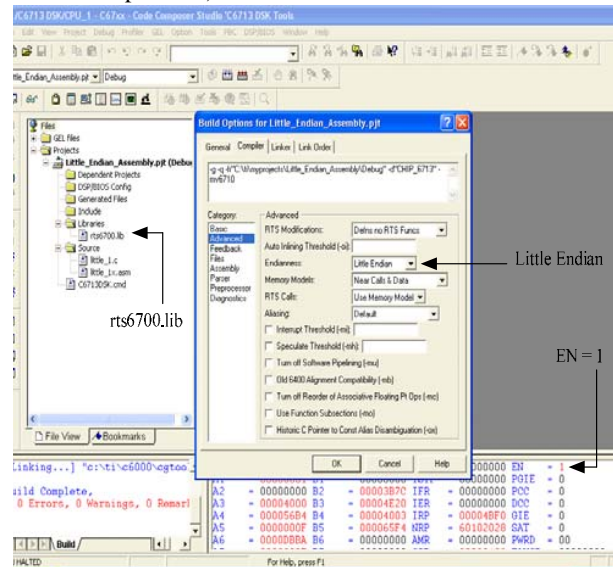

Fig. 2 A screen-shot of the CCS for little endian mode
2. After setting switch No.1 in the OFF position, **EN** in the Code Composer Studio must indicate 1. This is read only register and indicates the mode of the DSK board. When EN=1, the DSK board operates in the little endian mode and when EN=0, the DSK board operates in the big endian mode. The value of EN can be displayed in the CCS by **Clicking** View → **Clicking** Register → **Clicking** Core Registers as shown in Fig.2.
3. The endianness of the TMS320C6713 DSK board must be set to Little Endian as shown in Fig.2. This can be done by **Clicking** Project → **Click** Build Options → **Highlight** Advanced and make sure the **Endianness** is set to **Little Endian** and press **OK**.